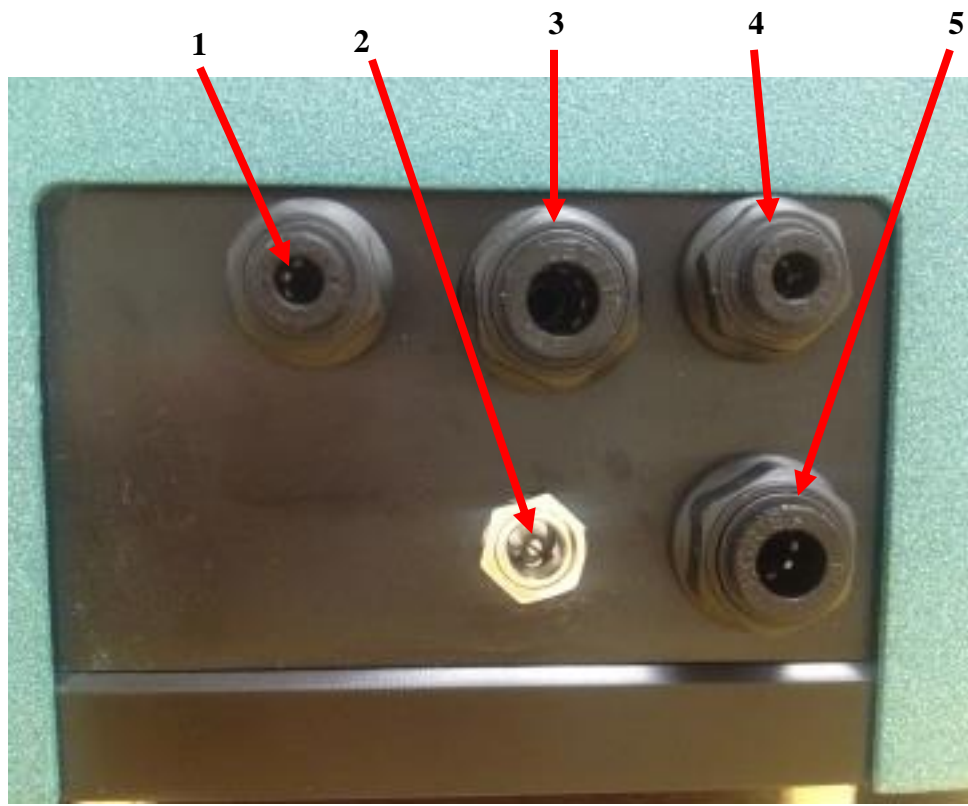

Figure 2.2.1
- Connect a 1/4” air supply hose to the fitting found on the back of the Automatic Fitting Inserter. *Figure 2.2.1* The air supply should be free of moisture and contaminants and capable of supplying **100-120** psi. It is important to have the ability to shut off the air pressure or disconnect from the main air line. A quick-connect coupling or ball valve is recommended.